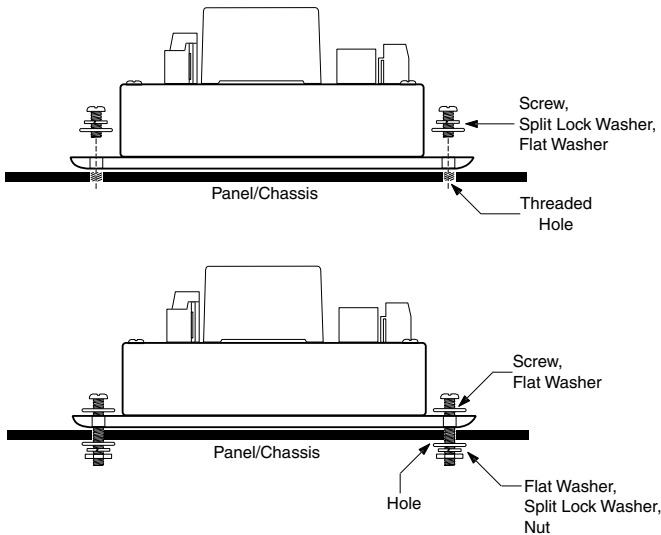

Figure 4. Chassis Mounting
1. Chassis Mounting Considerations: In order to minimize self-heating, DMS-PS-CM power supplies should always be mounted in either a vertical or horizontal position. Avoid mounting units upside-down or in close proximity to other heat-generating devices. Also, be sure to use the mounting hardware described in Figure 4 below in order to ensure a secure, vibration-resistant installation.